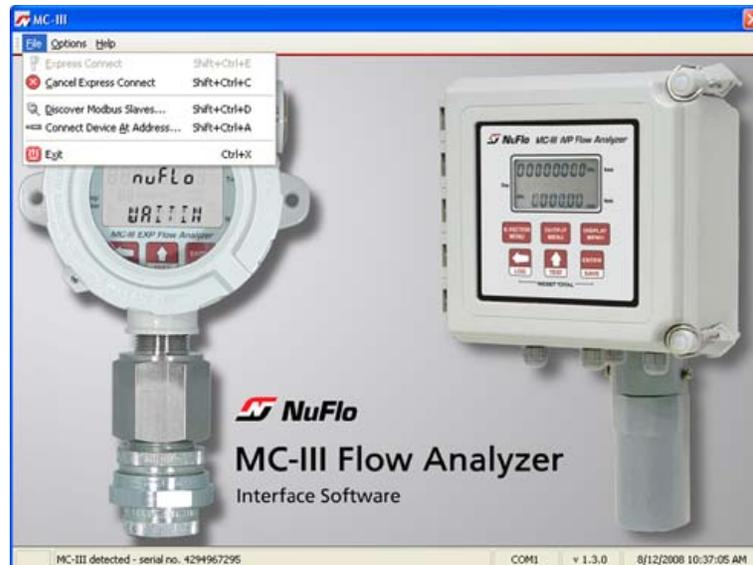

Figure 4.6—Cancel Express Connect option
To temporarily cancel the “express connect” function without exiting the software program, click in the LCD area of the device on the Welcome screen or choose File>Cancel Express Connect from the menu bar (Figure 4.6, page 43). The software will stop all attempts to connect to the device. The “express connect” function will be restored when the user exits the program and attempts to re-open the software.
1. From the Welcome screen, choose File>Cancel Express Connect (*Figure 4.6, page 43*).